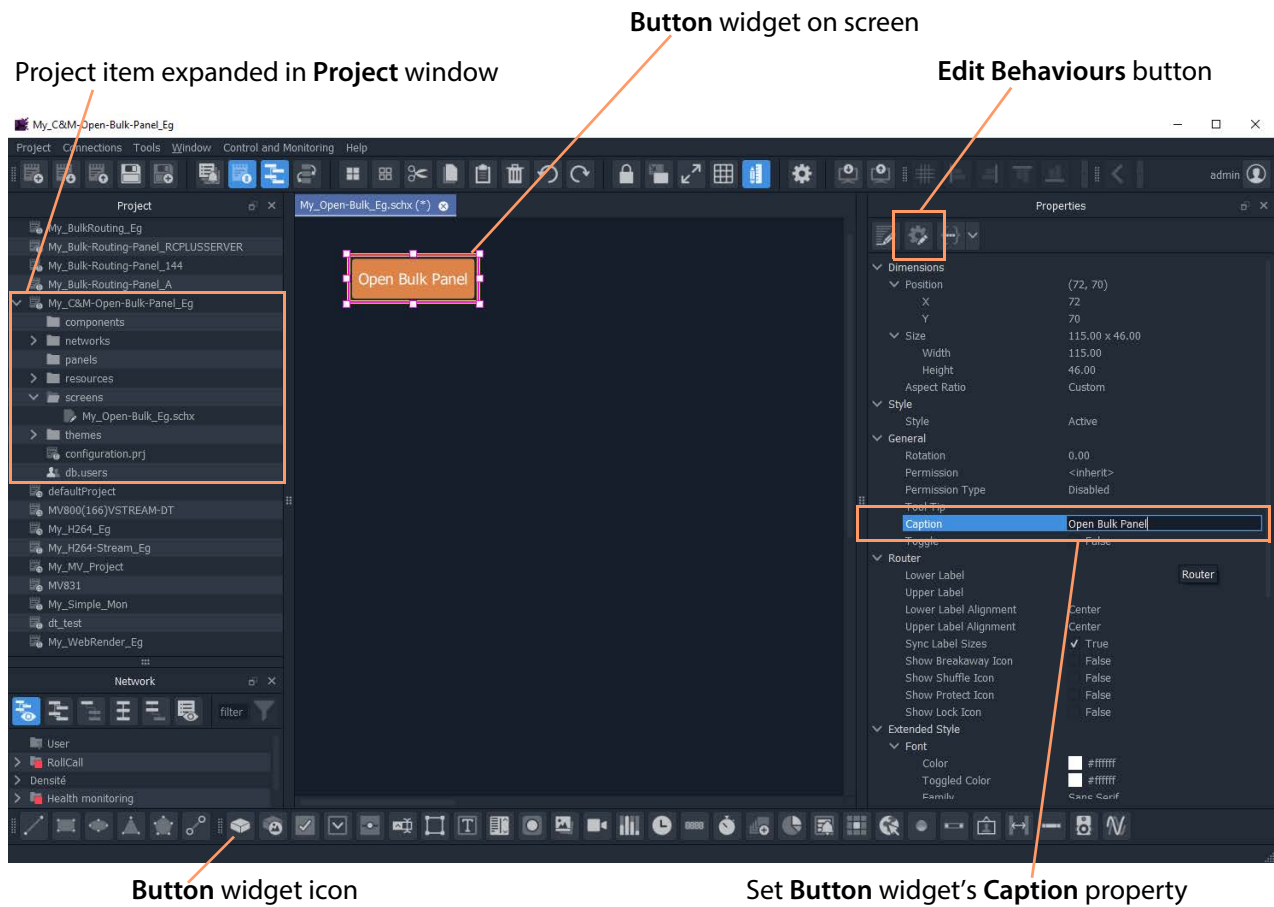

Fig. 13-91: C&M Project Screen with Button Widget
- 5 Edit the **Button** widget's **Caption** property. See Figure 13-91.